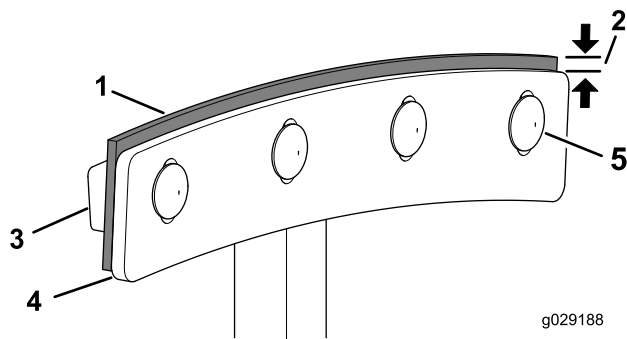

Figure 45
- Loosen the carriage bolts and flanged locknuts that secure the paddle blade and wiper to the paddle (Figure 45).